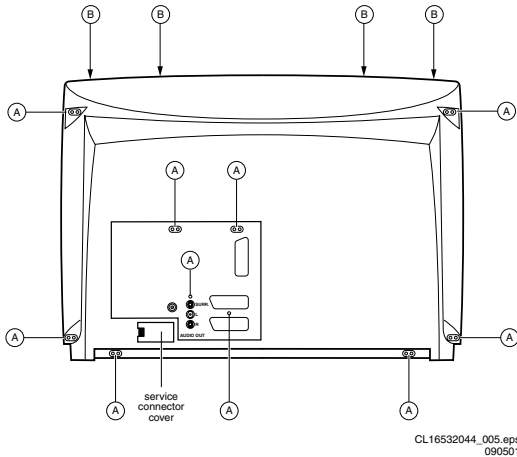

Figure 4-1
1. Remove the 'Service Connector' cover (see Figure 4.1).